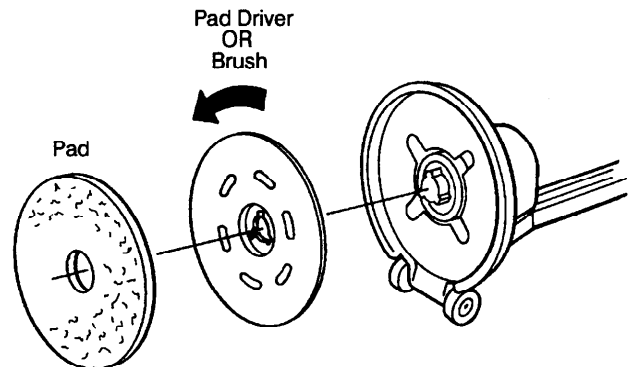

Fig. 1
4. Position brush/pad driver on driver lug and turn counter-clockwise to secure (Fig.1).
5. To install pad: Position pad on pad driver and tap with hand to secure (Fig. 1).